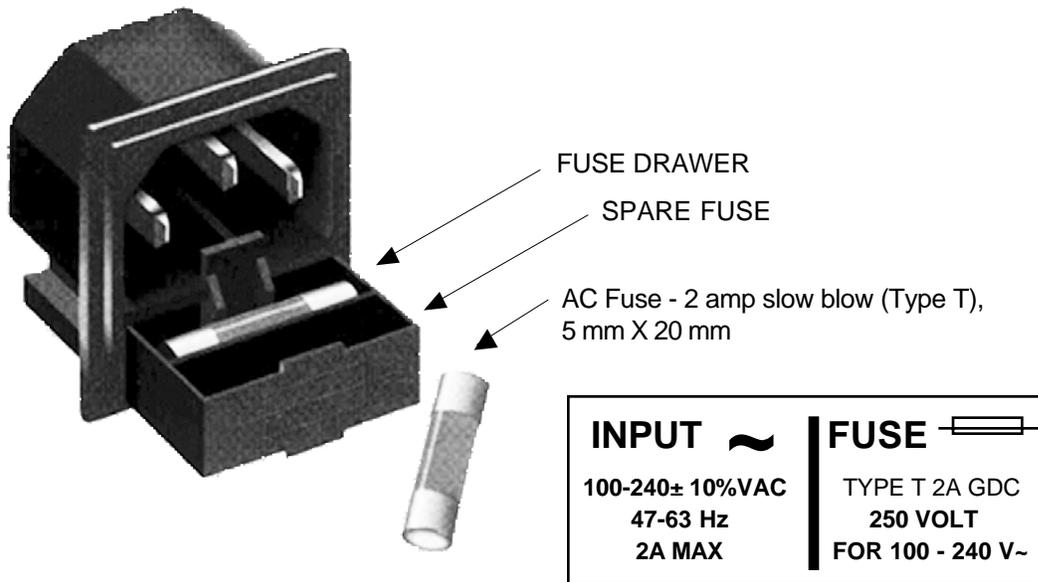

FIGURE 2.6 Fuse and Spare Fuse Locations
3. AC Fuse - The fuse is a 5mm, 2 amp fast blo and is inserted in the far slot in the drawer below the AC input as shown in Figure 2.6. There is a spare fuse in the near slot. If a fuse continues to open, the power supply is most likely defective. Note that the power supply module within the chassis also has a fuse but failure of this fuse indicates the power supply may be defective.